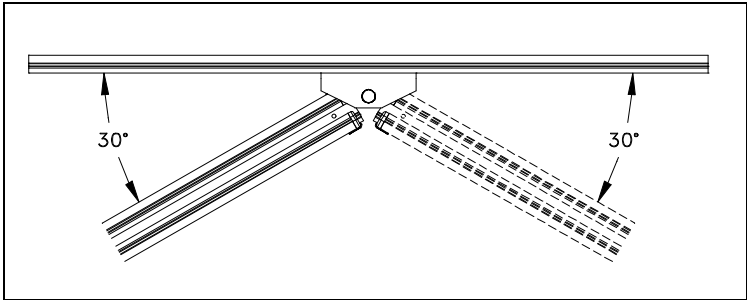

Figure 7
- The Wall Mount Adaptor must be positioned on the wall to ensure that the angle between the wall and the rail will measure more than 30° (see Figure 7).